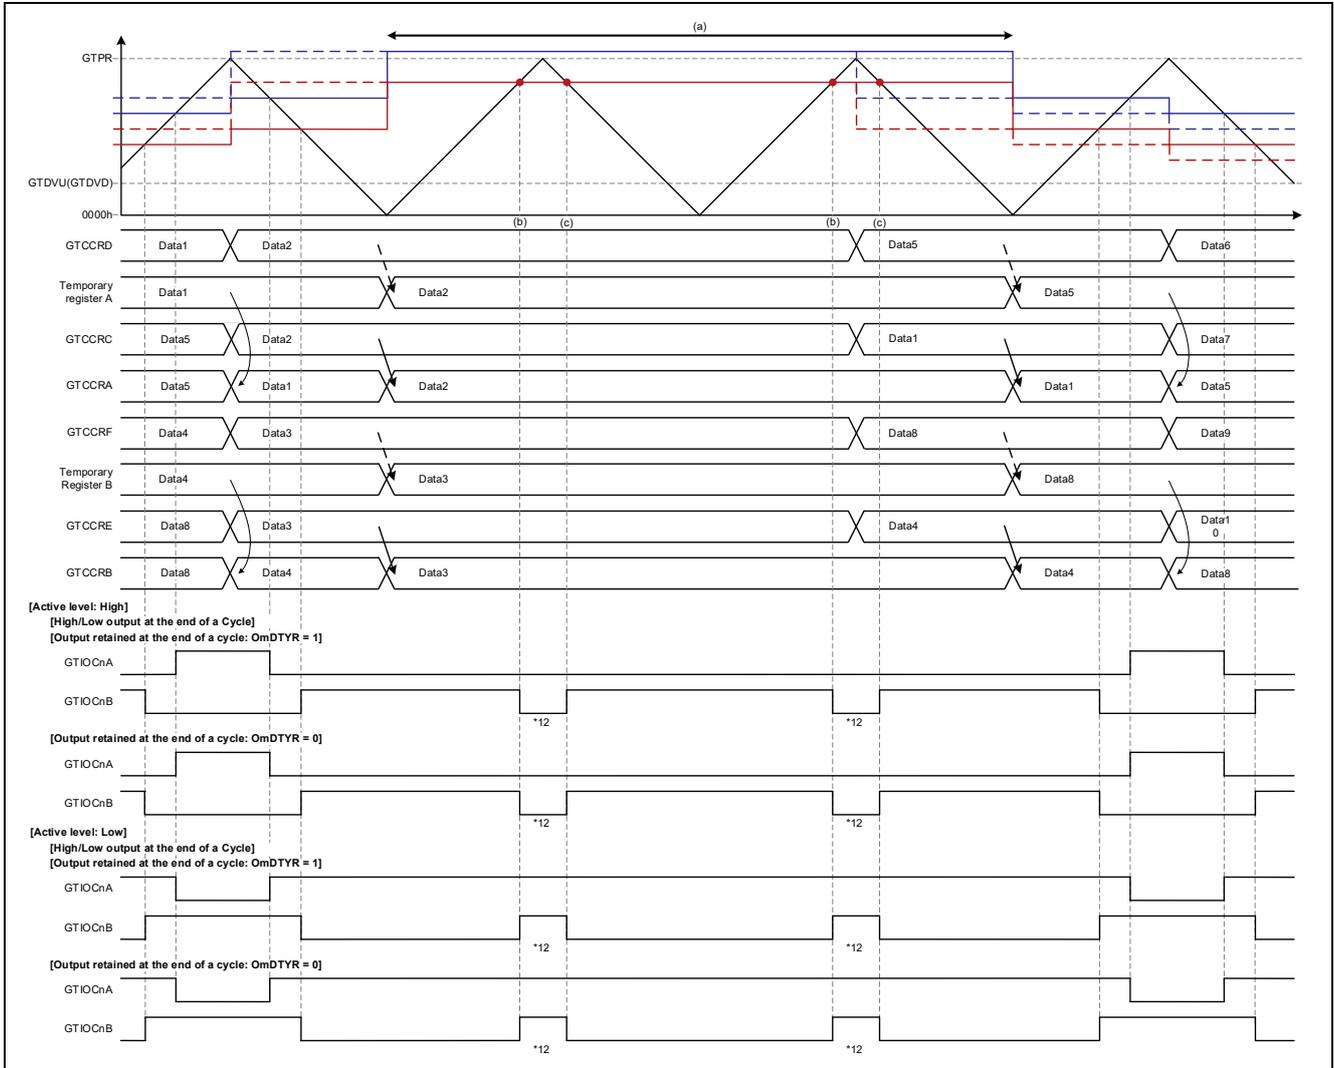

Figure 1.117 Triangle-Wave PWM Mode 3 Operation Example
Operation examples when an abnormal value (value exceeding GTPR register setting value) setting is used as listed in Table 1.14, Figures Showing Output Waveforms, are shown in Figure 1.115 to Figure 1.117 and applicable cautions are described below.
- Operation Example 3: Figure 1.117 Triangle-Wave PWM Mode 3, Abnormal Value (Transfer at Trough)/Normal Value (Transfer at Trough), caution 12
Figure 1.117 shows an operation example of transfer of a value exceeding GTPR to GTCCRA via buffer transfer at trough in triangle-wave PWM mode 3. Except for the difference in the buffer overwrite timing and transfer timing, the operation is the same as that shown in Figure 1.115.